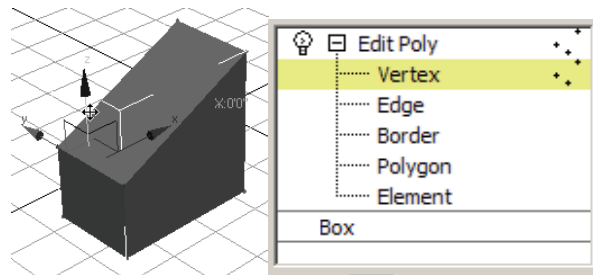

Figure 3–23
- Figure 3–23 shows a Box that is being edited geometrically by lowering two of its vertices with the **Move** transform.